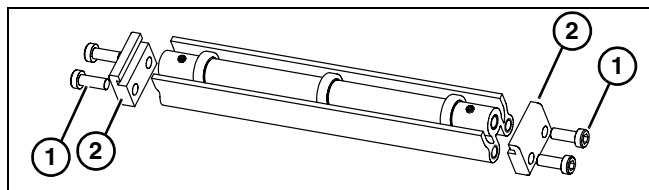

Figure 16
1. Locate return rollers. Exploded view shown in Figure 16.
2. Remove screws (**Figure 16, item 1**) and clips (**Figure 16, item 2**) from roller assembly.